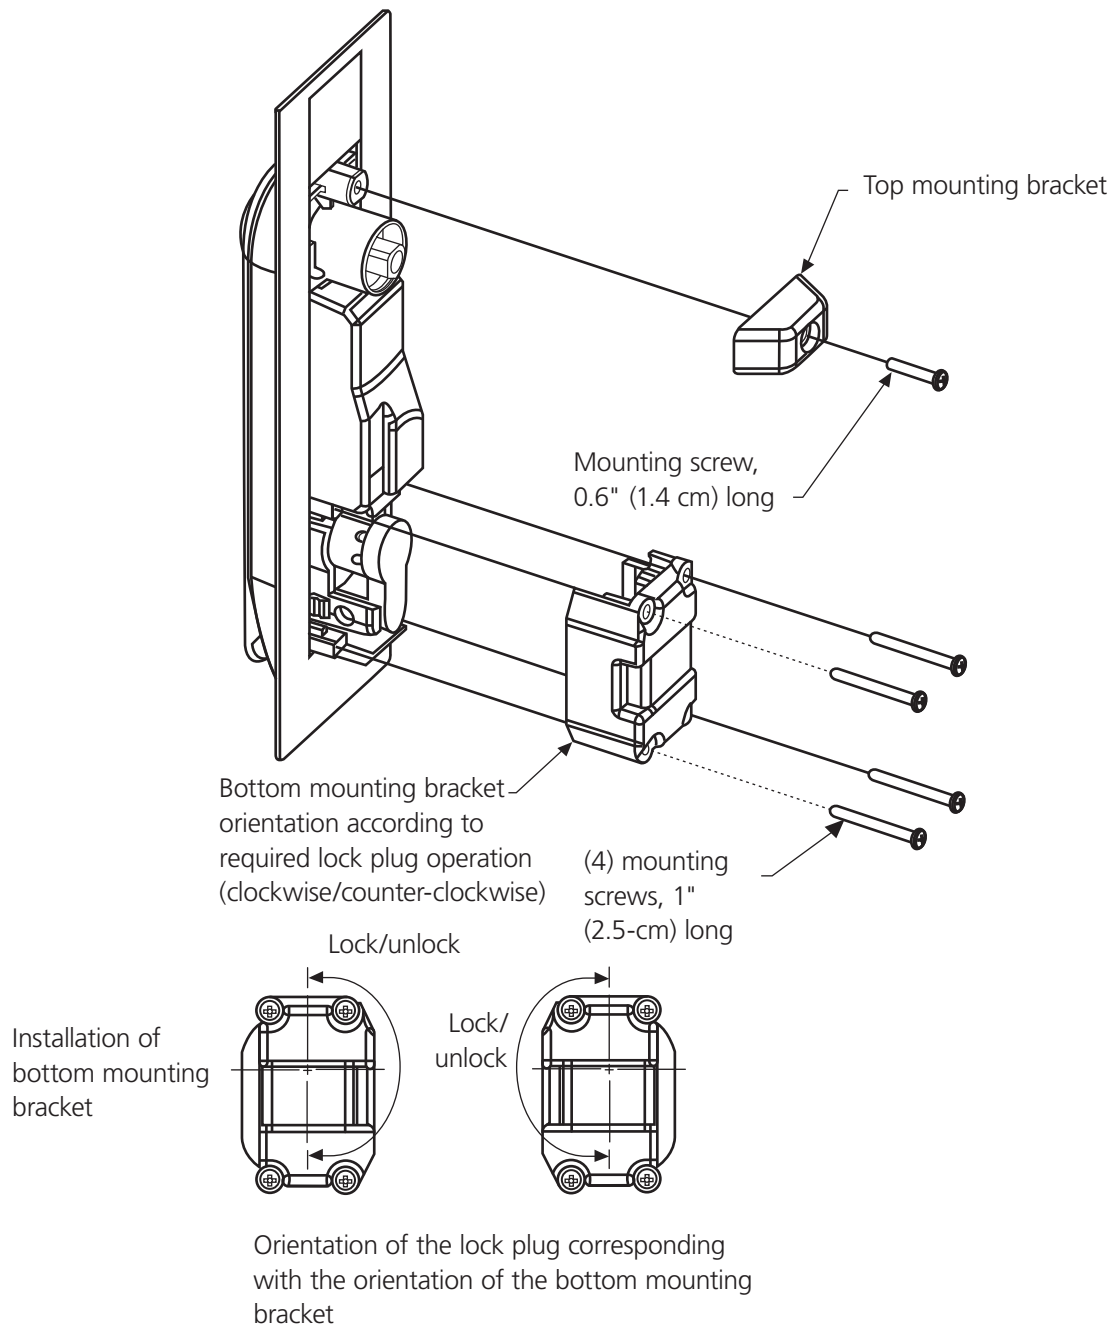

Figure 8. Secure the lock to the door.
- Secure the lock to the door using the top mounting bracket and the bottom mounting bracket as shown in Figure 8. Do not over-tighten the screws in the bottom mounting bracket because this may jam the lock mechanism.